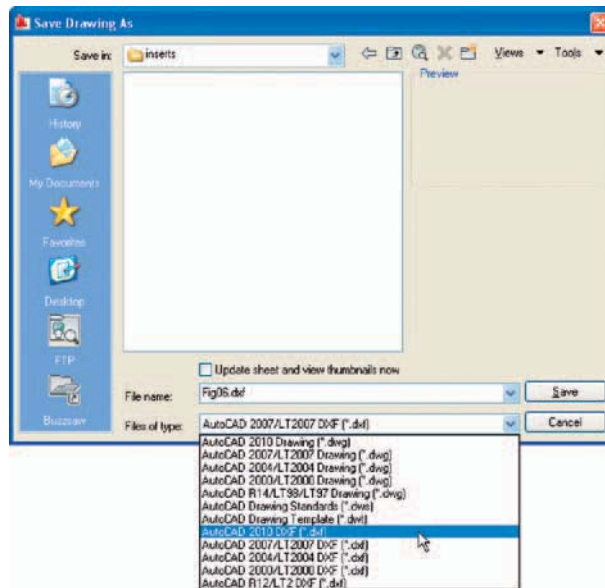

Fig. 10.7 The **Save Drawing As** dialog set to save drawings in DXF format
Example – DXF file (Fig. 10.7)
3. Enter a suitable file name. In this example this is **Fig06.dxf**. The extension *.dxf is automatically included when the **Save** button of the dialog is clicked (Fig. 10.7).